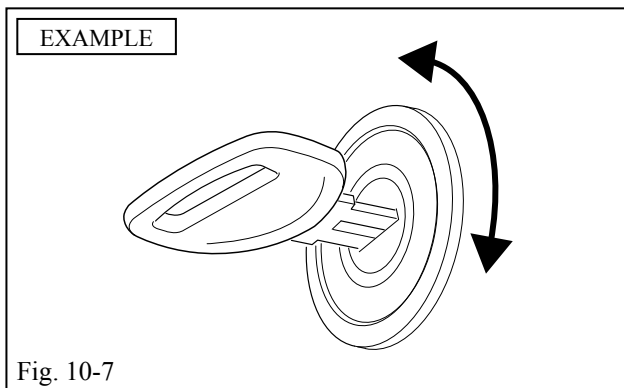

Fig. 10-7
- (k) Insert the Key into the Ignition and turn it to the "ON" position. (Fig. 10-7)
- (l) Turn the Key to the "OFF" position and remove it from the Ignition. (Fig. 10-7)